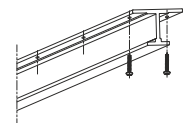

Fig. 4
5. Fix the track by screw as shown in Fig.4.